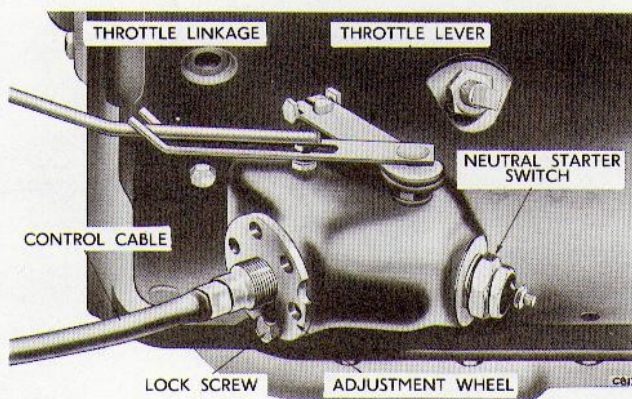

Fig. 3 Gearshift Control Cable Adjustment
- (1) Raise the car on a hoist. Have an assistant hold the (R) reverse button firmly pressed in.
- (2) See Fig. 3. On the left hand side of the transmission remove the lock screw from the control cable adjustment screw.
The throttle valve lever is positioned on the left side of the transmission case. See Fig. 3.